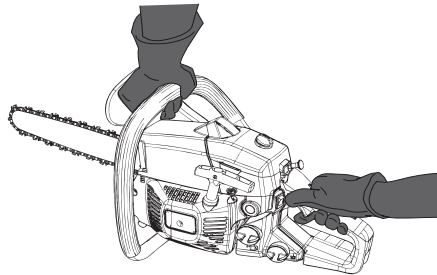

Fig. 24
1. Make sure the chain brake is disengaged. Disengage the chain brake by pulling the front hand guard (9) back towards the front handle (8).
2. Place the product on any suitable flat surface, make sure the saw chain (10) is not touching the surface or other objects.
3. Grasp the front handle (8) with your left hand. Your thumb and fingers should encircle the handle. Grasp the rear handle (1) with your right hand. Your thumb and fingers should encircle the handle (Fig. 24).
4. Start the product as described, press the throttle interlock (2), then fully squeeze in the throttle trigger (3) with your index finger and hold in this position.
5. While the engine is running, engage the chain brake by rolling your left hand forward against the front hand guard (9). The saw chain (10) should stop immediately.
3. Pull out the choke lever (5) fully. The choke lever (5) is now at CLOSE position (Fig. 24, step 3).